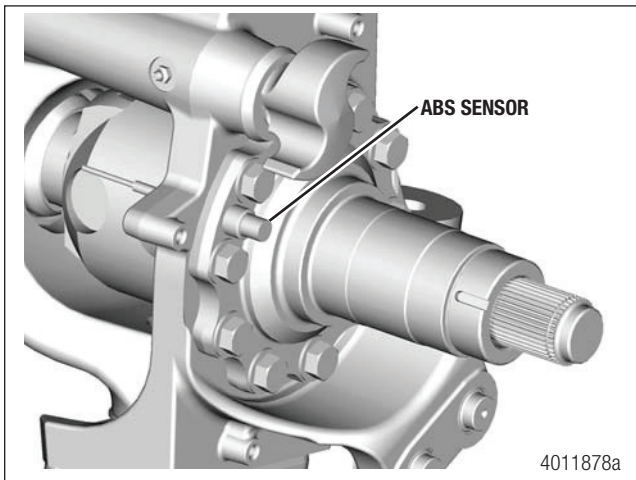

Figure 5.24
**If the vehicle is equipped with ABS:** Push the ABS sensor into the steering knuckle cavity. Figure 5.24.